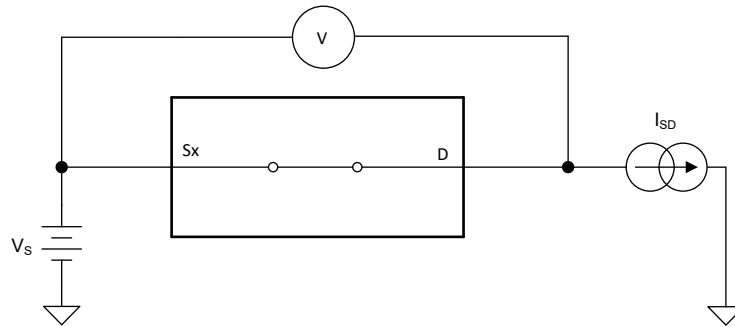

图 7-1. On-Resistance Measurement Setup
The on-resistance of a device is the ohmic resistance between the source (Sx) and drain (D) pins of the device. The on-resistance varies with input voltage and supply voltage. The symbol  $R_{ON}$  is used to denote on-resistance. The measurement setup used to measure  $R_{ON}$  is shown below. Voltage (V) and current ( $I_{SD}$ ) are measured using this setup, and  $R_{ON}$  is computed as shown in 图 7-1 with  $R_{ON} = V / I_{SD}$ :